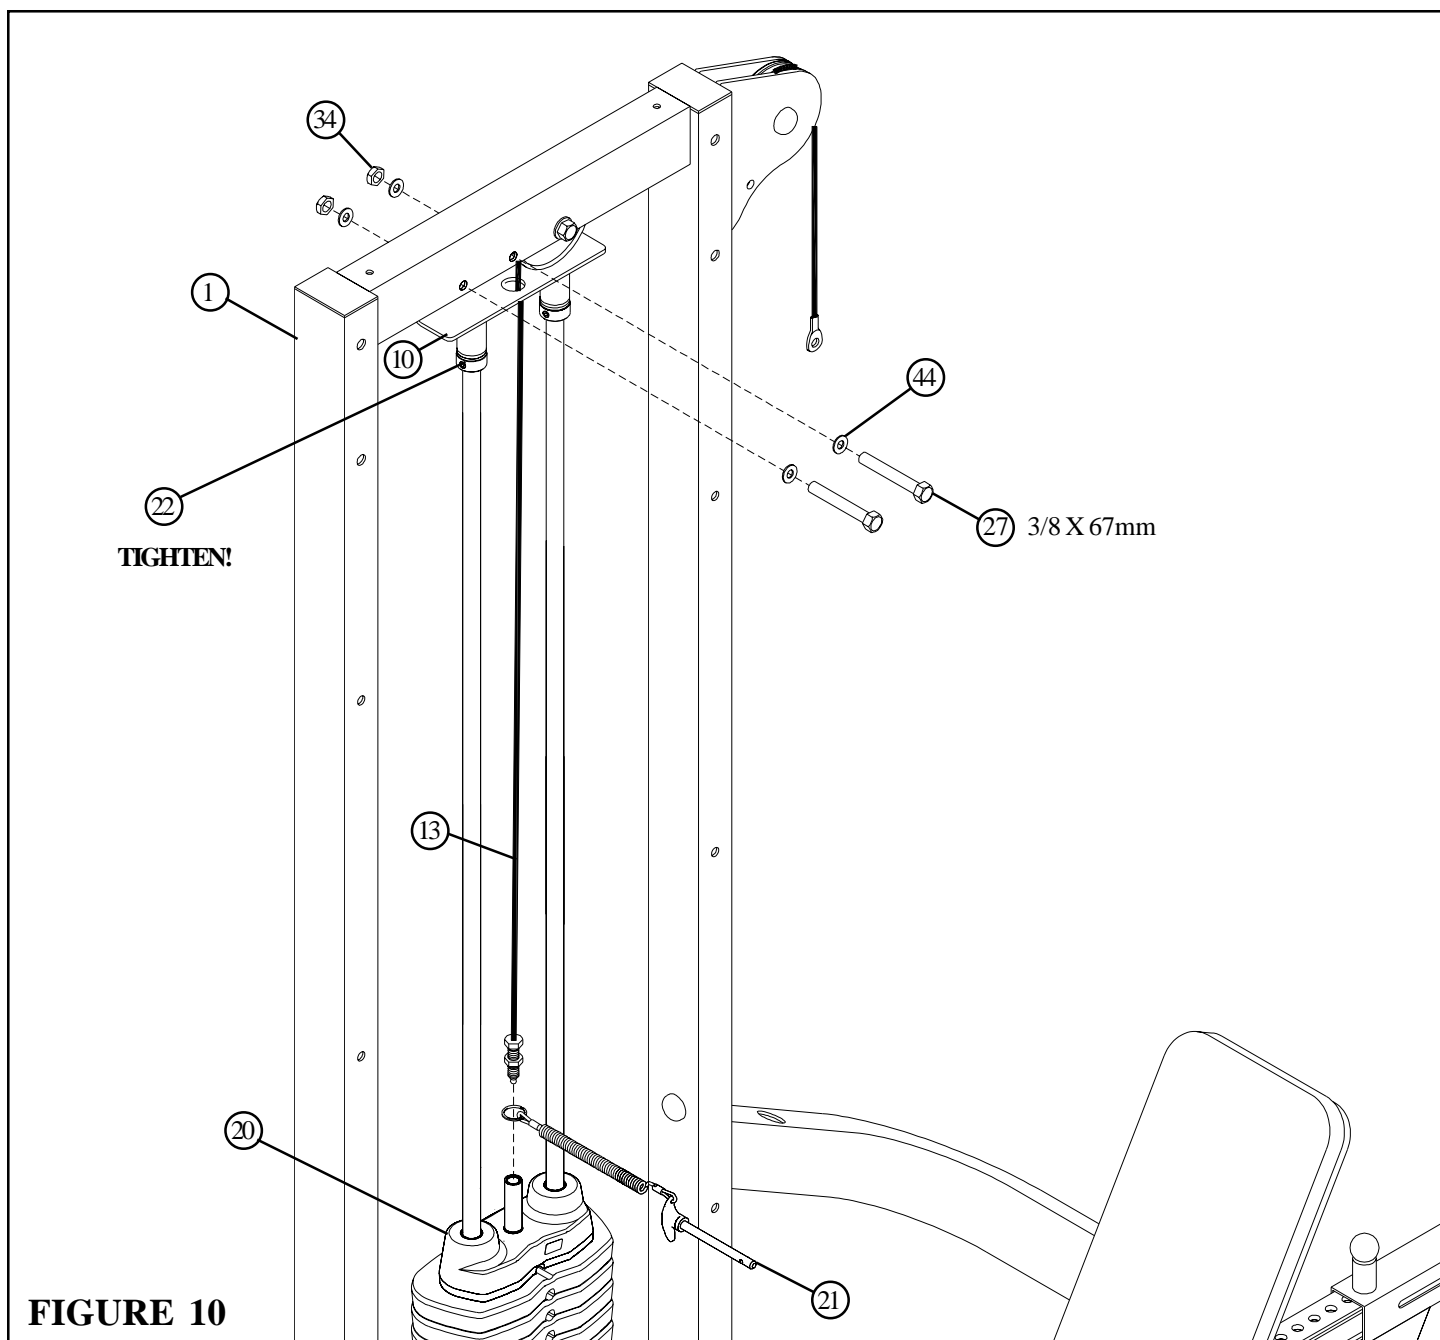

FIGURE 10
- Route the threaded end of the WEIGHT STACK CABLE (13) through the GUIDE ROD SUPPORT (10) and **SECURELY** assemble the GUIDE ROD SUPPORT (10) to the TOWER (1) using two 3/8 X 67mm BOLTS (27), four 3/8" FLAT WASHERS (44) and two 3/8" LOW HEIGHT LOCK NUTS (34) as shown in FIGURE 10.
- Slide the 13/16" SHAFT COLLARS (22) up against the GUIDE ROD SUPPORT (10) and **SECURELY** tighten the set screws on the SHAFT COLLARS (22). See FIGURE 10.
- Slide one WEIGHT STACK PIN (21) over the stem on the HEAD PLATE (20) as shown in FIGURE 10.
- **LOOSELY** thread end of the WEIGHT STACK CABLE (13) into the end of the stem on the HEAD PLATE (20). See FIGURE 10.